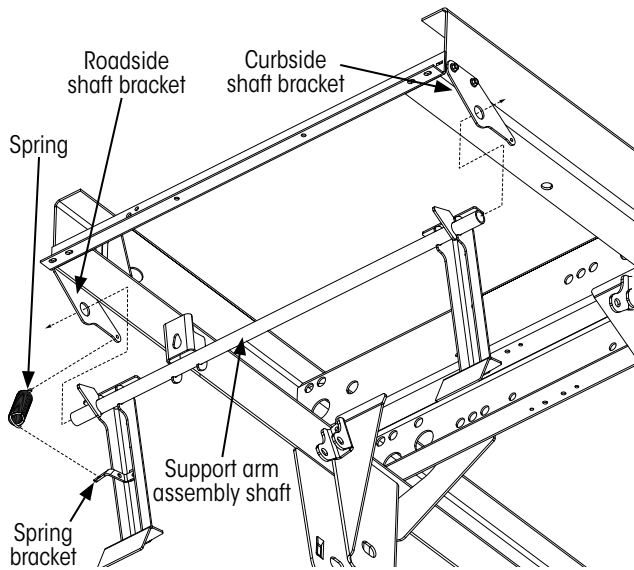

Figure 34: Support arm assembly installation
3. Insert one end of spring (Figure 34) through spring bracket hole on support arm assembly.
5. Insert roadside end of the support arm assembly shaft (Figure 34) into roadside shaft bracket.